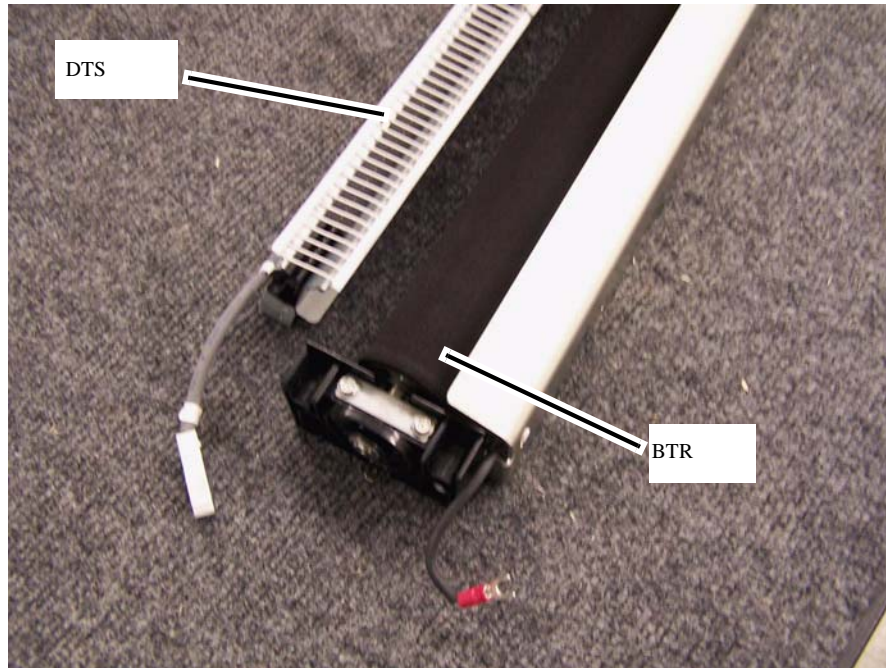

Figure 3 DTS separated from BTR/DTS Assembly
4. Separate the DTS Assembly from the Blocks (Figure 3).